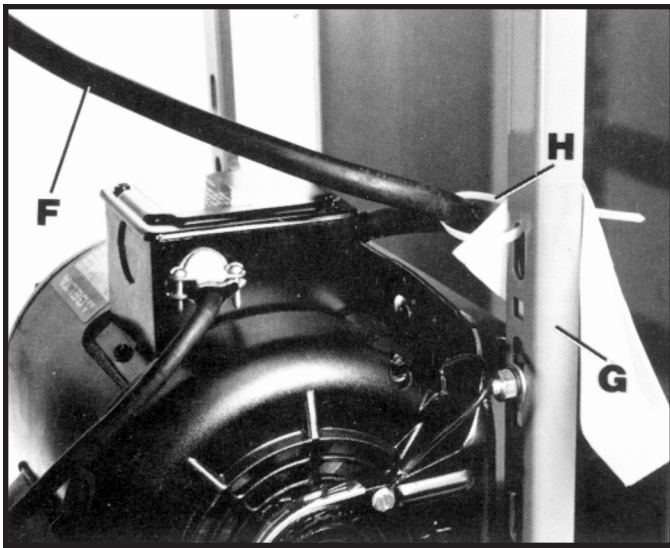
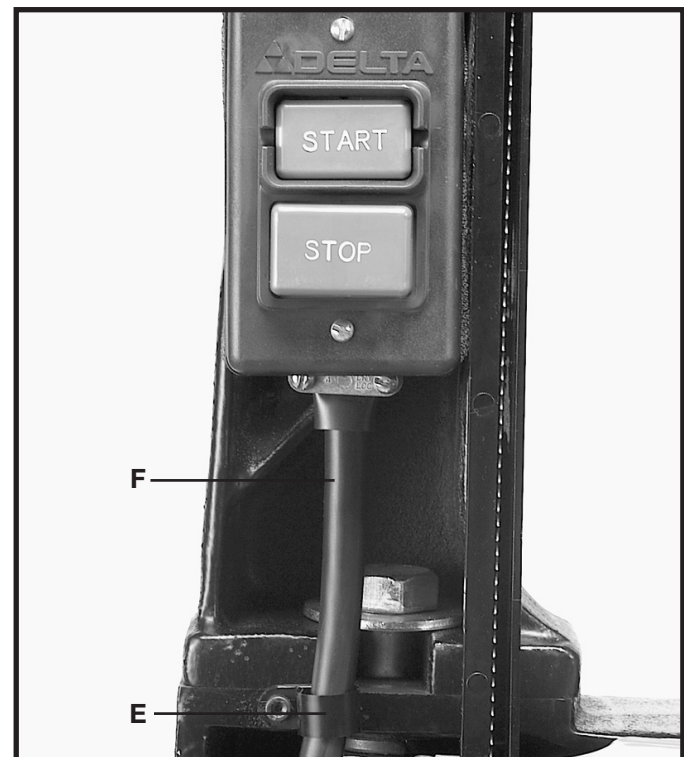

Fig. 9
Fig. 12
2. **CAUTION: THE START/STOP SWITCH-TO-MOTOR CORD (F) FIG. 9, IS TIED TO VERTICAL MOUNTING POST (G) OPPOSITE THE MOTOR PULLEY. THIS CABLE TIE (H) PREVENTS THE SWITCH-TO-MOTOR CORD (F), FROM CONTACTING THE BELT OR MOTOR PULLEY DURING OPERATION. IMPORTANT: DO NOT REMOVE THIS CABLE TIE UNLESS YOU ARE USING THE ACCESSORY #28-984HEIGHT ATTACHMENT WITH THE BAND SAW.**
6. Remove screw and cable clamp (E) Fig. 12, from lower arm of band saw.
7. Insert switch cord (F) Fig. 12, into clamp (E) which was removed in **STEP 6**, and fasten switch cord (F) to band saw as shown. **IMPORTANT: CHECK AND MAKE CERTAIN THE START/STOP SWITCH-TO-MOTOR CORD (F) FIG. 9, IS NOT CONTACTING MOTOR PULLEY OR BELT. ADJUST CORD (F) FIG. 9, IF NECESSARY, THEN TIGHTEN CABLE TIE (H).**